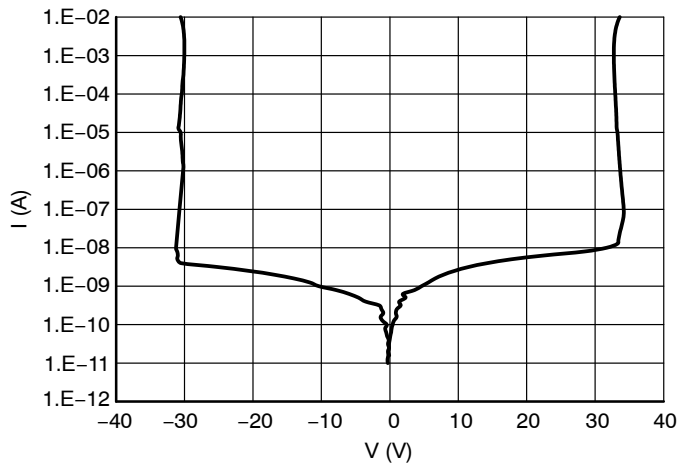

Figure 1. IV Characteristics
1. Non-repetitive current pulse per Figure 1.
4. Pulse waveform per Figure 1.